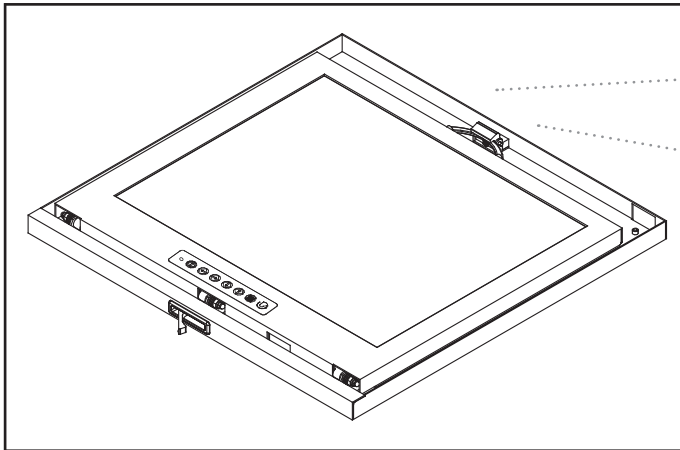

Figure 8.
■ Release the locking bracket in **Figure 8**.